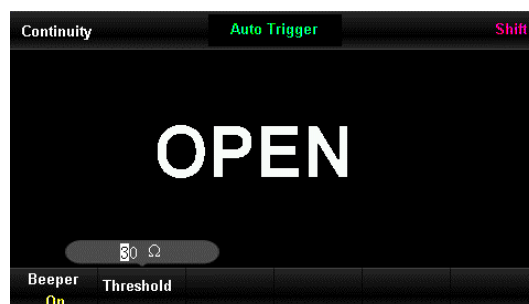

Figure 2-30 Interface of threshold value setting in continuity test
- 1) Turn the continuity test function on, and enter following interface as Figure 2-30.